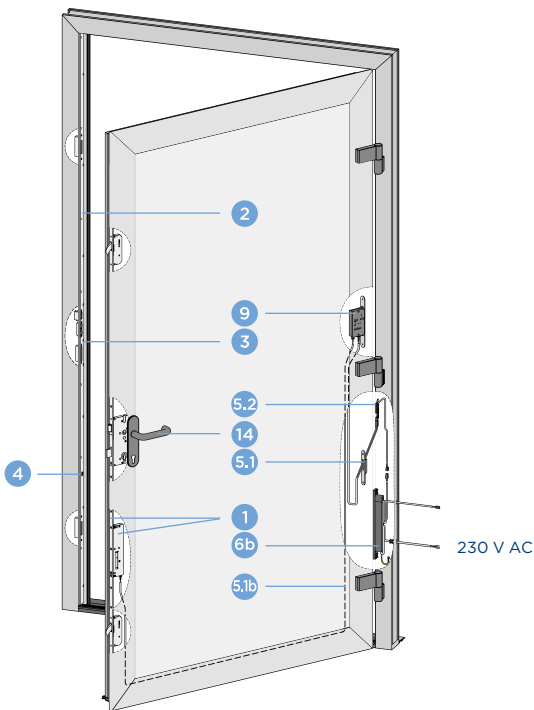

Figure 2-2: Locking system blueMotion with accessories (e.g. external control unit in the housing EV-G in the sash) and frame power supply 24 V DC
5.1b	Figure 2-2: Cable transition set T-SET KÜ-T1 FT INTEG-BM including cable Sash part with cable 1,5 m, cable ends with 5-pole plug for housing EV-G + connecting cable EV-G motor 3,5 m (1st Cable end with plug for housing EV-G, 2nd Cable end with plug for motor housing BM)
5.2b	Figure 2-2: T-KÜ-T1 RT KABEL 0,6M RNT with plug connection to the frame power supply 24 V DC (optional)
6b	Figure 2-2: T-NETZTEILRAHM.** 24 V DC 1 A (2 A / 2 S) (optional) including cable for connection of external access controls, eg. intercom, potential-free contact